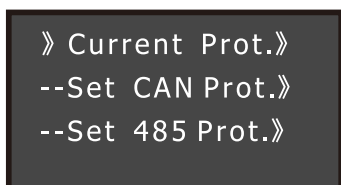
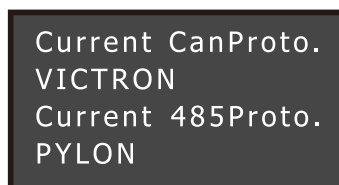
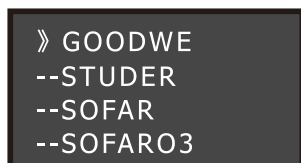
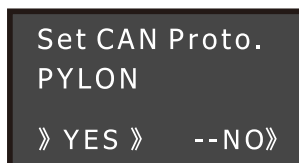

Figure 1-1
Figure 1-2
Figure 1-2.1
Figure 1-2.2
1) Under the main interface shown in Figure 1-1, select the down key and place the front cursor "»" "
in the "Para Setting" column. Enter key to enter as shown in Figure 1-1. At this time, place the front cursor "»" in the "Current Prot" column. Enter key to enter as shown in Figure 1-2 to view the current default communication protocol.
Under the interface shown in Figure 1-1, select downwards with the Down key, place the front cursor "»" in the "Set CAN Prot" column, and press the Enter key to enter Figure 1-2.1.
In the interface of Figure 1-2.1, the communication protocol for the requirement can be selected by pressing the Down key. Place the cursor "»" in the corresponding column of the protocol name for the requirement, and press the Enter key Enter the protocol settings, as shown in Figure 1-2.2. At this time, select "PYLON" to set the communication protocol, and press the Enter key to select "YES" to enter the successful setting interface, as shown in Figure 1-2.3. Press the ESC key to return to the previous interface.
Under the interface shown in Figure 1-1, select downwards using the Down key, place the front cursor "»" in the "Set 485 Prot" column, and enter the Enter key to set the corresponding RS485 communication protocol. The operation steps are the same as setting the CAN communication protocol.